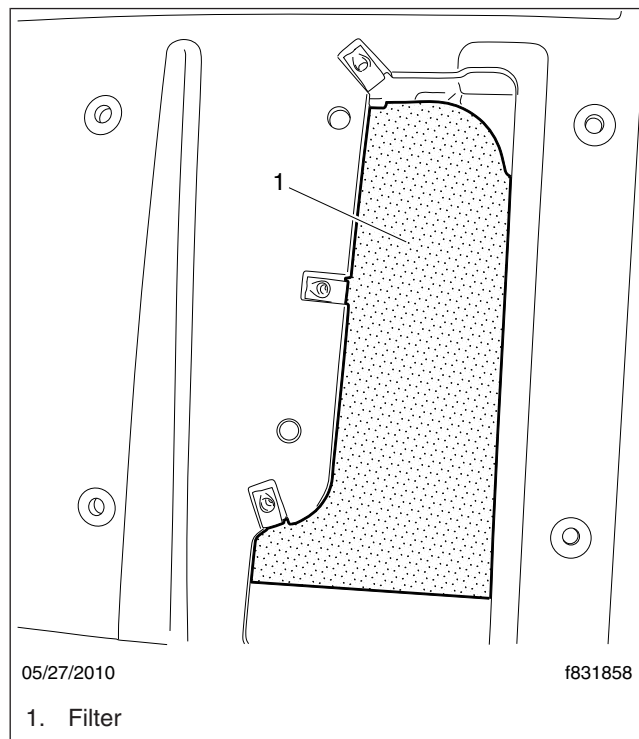

Fig. 12, Removing the ParkSmart Filter
3. Pull the filter out of the slot. See Fig. 12.